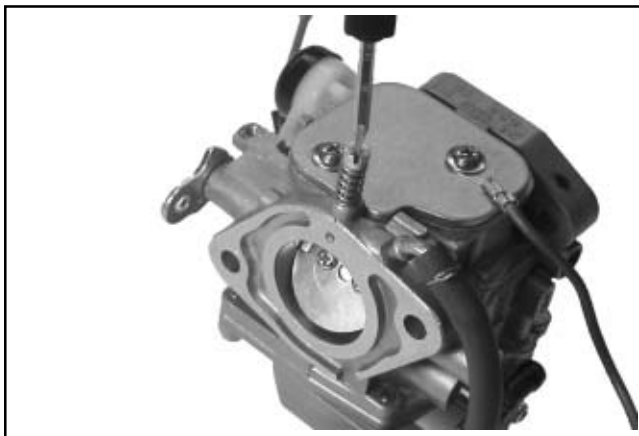

Figure 5-25. Installing Idle Fuel Adjusting Screw and Spring.
17. Place the longer new spring onto the idle fuel adjusting screw and install it into the carburetor. As an initial adjustment, set to **1 turn out** from lightly seated. See Figure 5-25.